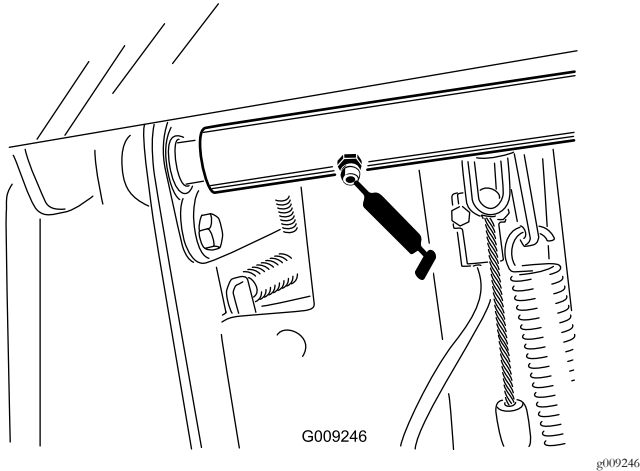

Figure 33
- Brake-pedal, pivot-shaft bearings (2) (Figure 33)